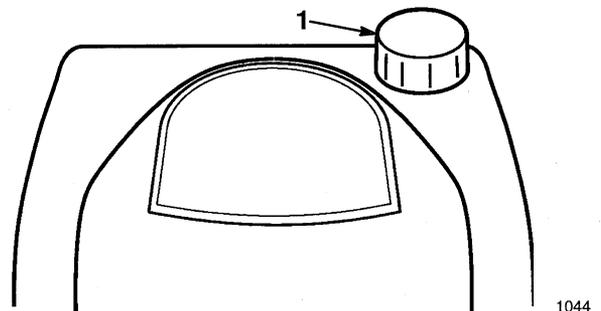

Figure 54
6. Fill fuel tank (Fig. 54) with fresh, clean gasoline/oil mix.